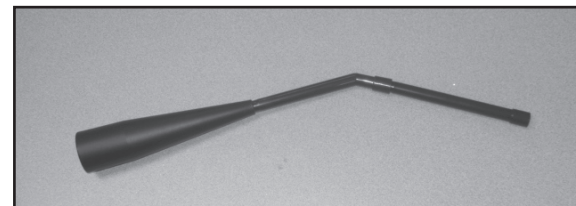

Figure 17.4
- Assemble the crevice tool from the micro cleaning kit to attach to a Shop Vac. **Figure 17.4**